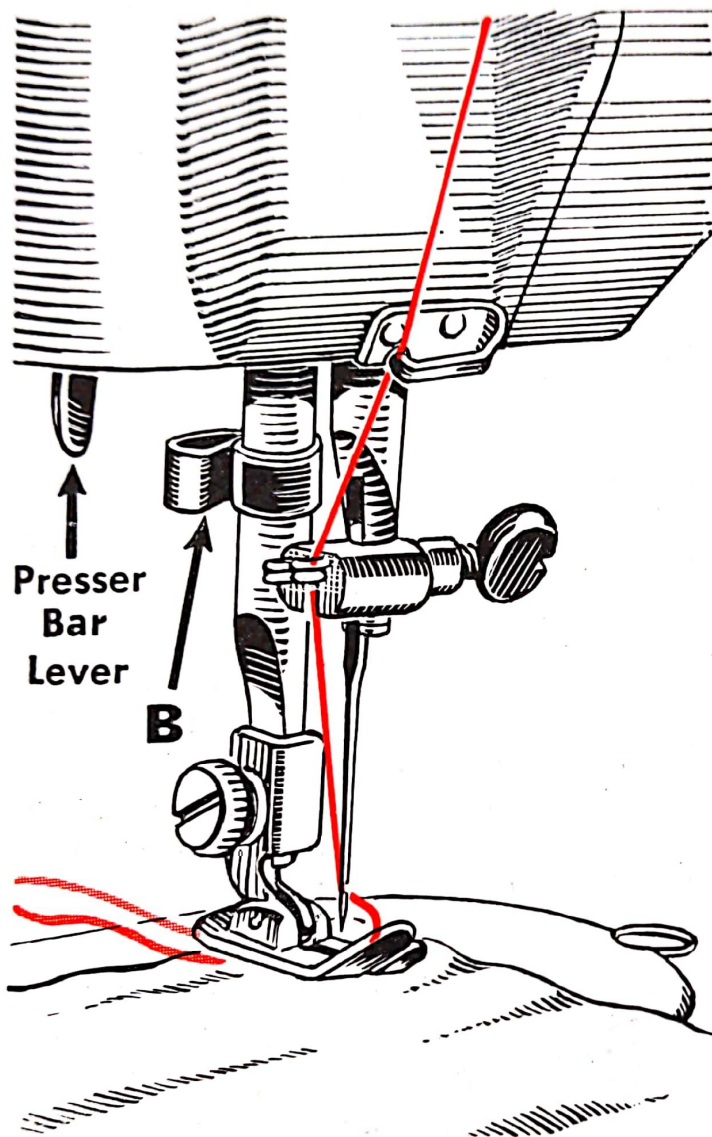

FIG. 17
2. Place both cottons between the toes of the foot and draw towards the rear of the machine (See Fig. 17).
3. Using the thread cutter B (Fig. 17) sever the threads close to the material.